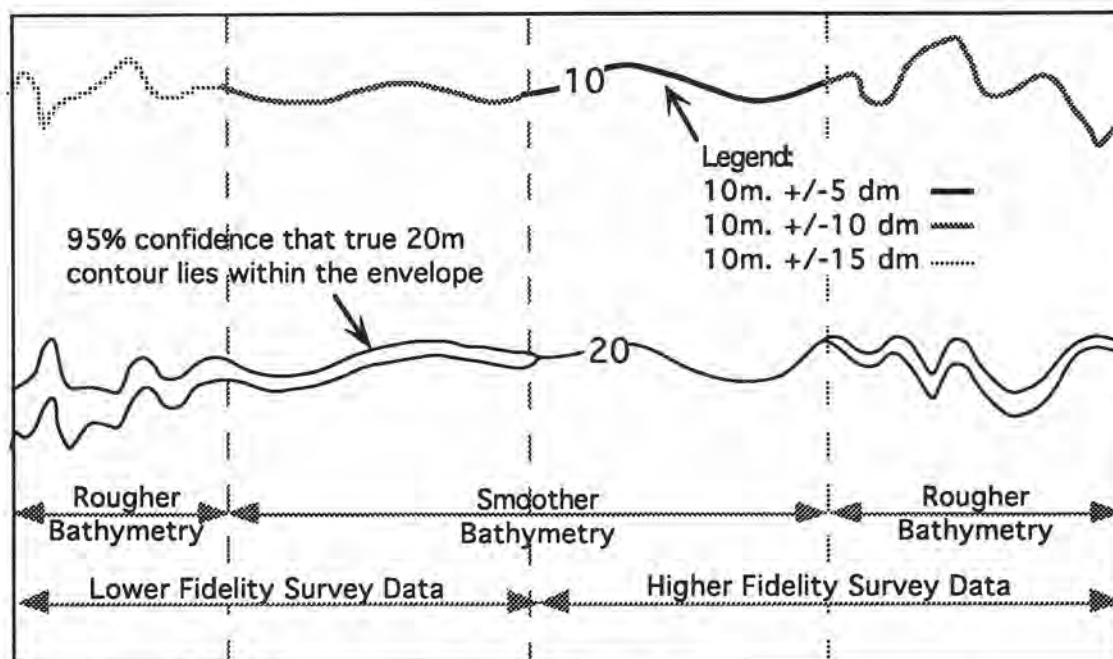

Figure 2: Methods of integrating both depth and uncertainty surfaces
Figure 2 illustrates how this display method might appear to navigators. The display is simulated here for the sake of graphical clarity, however IHOSat currently has the capability to compute and draw similar graphics to portray any input survey file. In the lower area of Figure 2, a 20 m contour has been drawn through both the deep-biased and the shallow-biased bathymetric surfaces. The visual effect produced is that of a single contour which gets thicker and thinner depending on the magnitude of the stochastic surface. For clarity, the survey area has been divided into zones of different data fidelity and seabed topography. Data fidelity is dependent on two factors: the accuracy of the observations and their density with respect to the features being charted. In Figure 2 we see that the accuracy of the technology used to collect soundings and the complexity of the bathymetry both affect the width of the contour envelope. In this example (assuming the stochastic surface was computed at the 2 sigma level), the navigator would have a 95% assurance that the true 20 m contour lies somewhere within the boundaries of the variable-width contour envelope. The advantage this gives to the navigator is that a ship's course can now be easily laid out with due consideration to both the bathymetry and its uncertainty.
Another possible tool for integrating the bathymetric and stochastic surfaces would be to colour-code the contour line using the depth uncertainty at each grid node. The 10 metre contour line situated in the upper part of Figure 2 has been drawn using 3 grey-scales. IHOSat doesn't currently support this output mode. Each portrayal method has advantages and disadvantages. The contour envelopes have the advantage of actually showing the horizontal limits of confidence zones, however the visual effect can become complex under certain conditions. The colour-coding method maintains neat contour lines but doesn't explicitly inform a navigator where to plot a course in order to maintain a desired keel clearance. In an evolved EC system, different graphical representations of data quality could be toggled on or off as required. What is
1. The computed stochastic surface will be the most complete picture of the data uncertainty that can be derived from the data. These raster objects should be stored as such and used for a variety of survey planning tasks or graphical tasks such as the dual-purpose contours depicted in Figure 2.